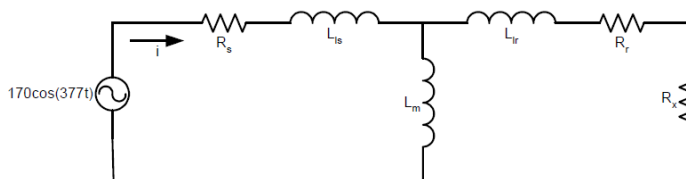

Figure 4.1 A Circuit model for one phase of an induction motor being driven by the utility
7. Figure 4.1 shows a circuit model for the utility supplying one phase of an ac induction motor. The motor system parameters are  $R_s = 0.08 \Omega$ ,  $L_{ls} = 1 \text{ mH}$ ,  $L_m = 40 \text{ mH}$ ,  $L_{lr} = 1 \text{ mH}$ ,  $R_r = 0.1 \Omega$ , and  $R_x = 33 \Omega$ . If the utility voltage is  $170 \cdot \cos(377t)$ , i) what is the current into the motor? and ii) At what power factor is the motor operating?